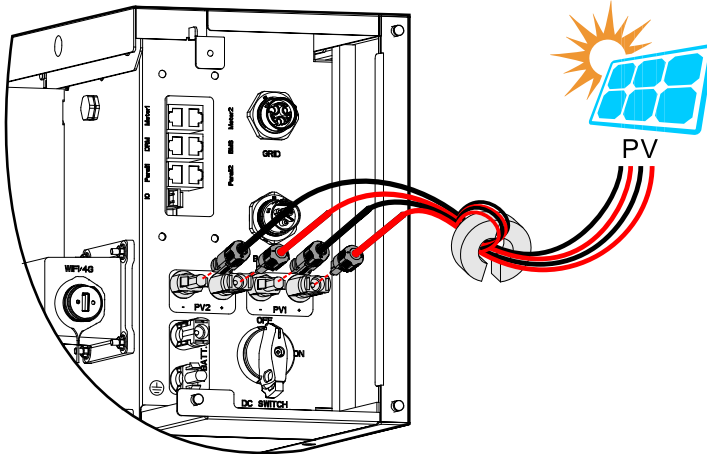

Figure3-18 Connect the PV connector
- Step 6 Insert the positive connector and negative connector (black) to the PV+ and PV– terminals (as shown in Figure3-18) and tighten them. If there has a click sound, it means that the connector have been inserted properly.